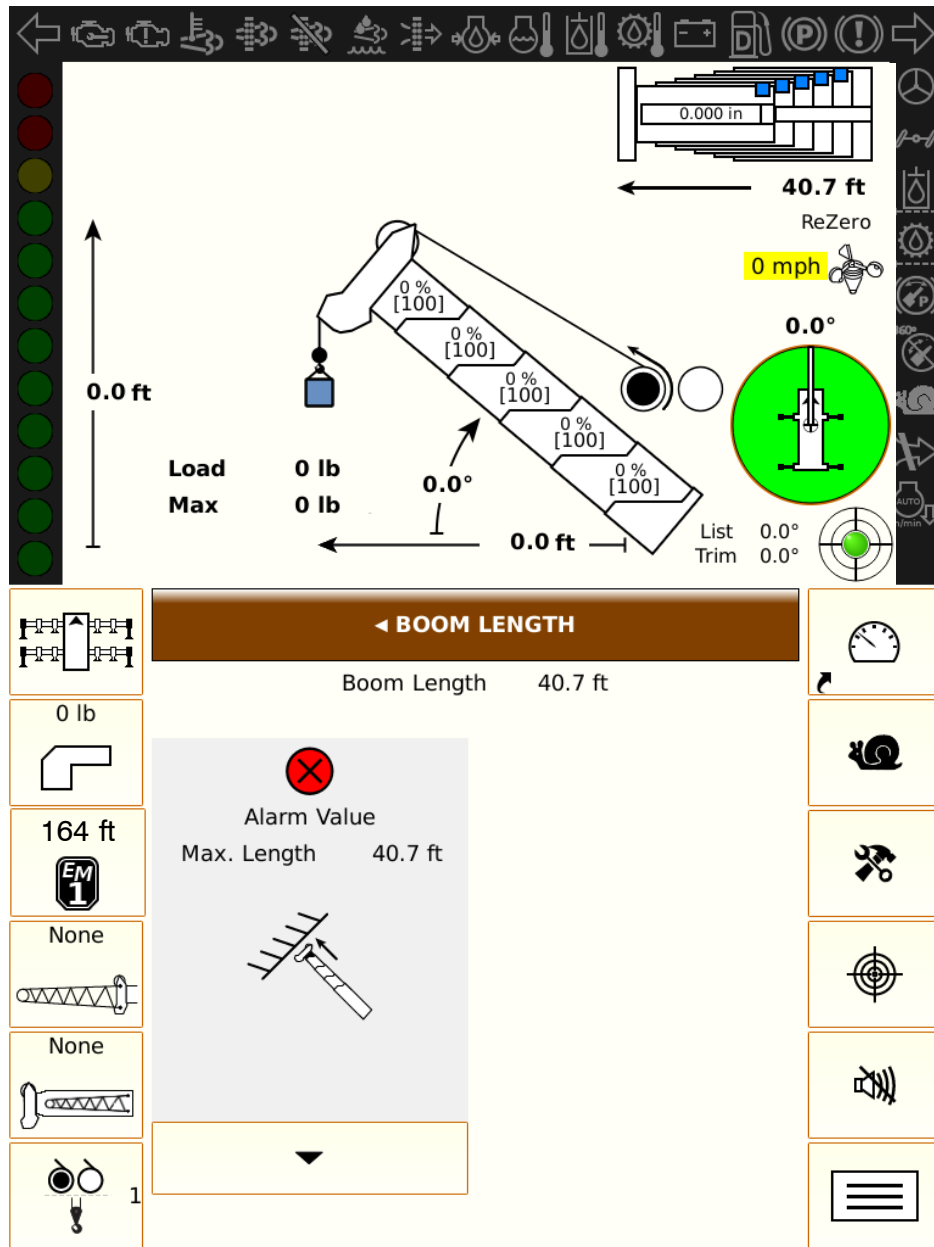

Figure 1-112
3. The Boom Length Screen will appear. Refer to Figure 1-112.